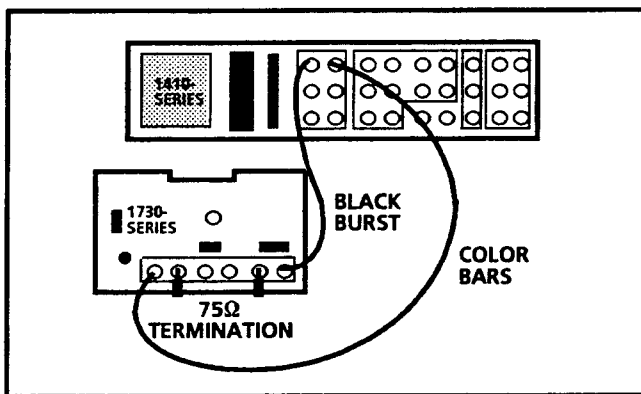

Fig. 5-21. Connecting color bars signal to waveform monitor (EXT REF is black burst).
- a. Connect a color bar signal to the 1730-Series CH-A INPUT. See Fig. 5-21.